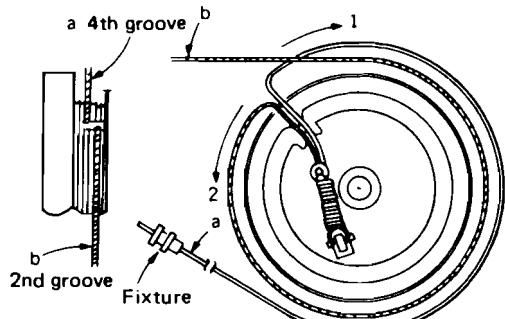

Fig. 24
4. Turn over the arm drive wheel, and set the rope in the order of 1 ~ 2. (Fig. 24)